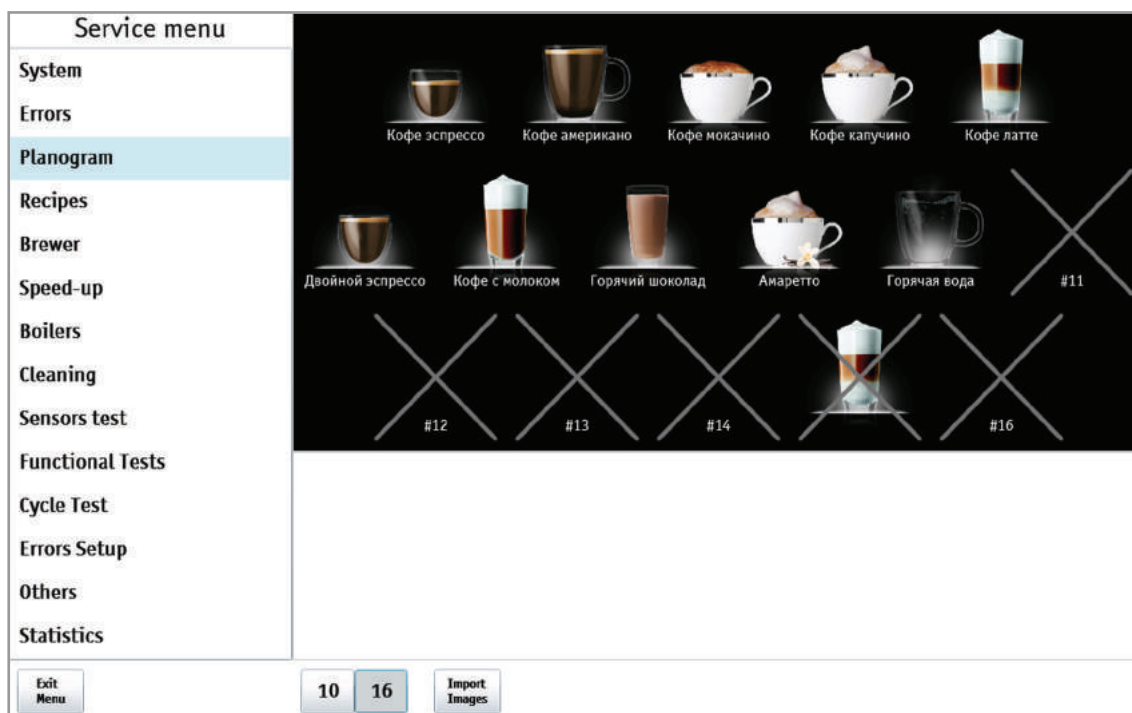

Fig. 9.12b - Planogram (16)
The buttons **(1)** are used for changing between the planogram layouts. Furthermore when in the vending mode the layout is chosen automatically in accordance with the index of the last permitted product: if the index is more than 10, then the layout 16 is used, otherwise the layout 10 (see fig. 9.12b).
3. Prohibition/permission (in the case of prohibition the drink in the planogram is crossed out, see fig. 9.12b).